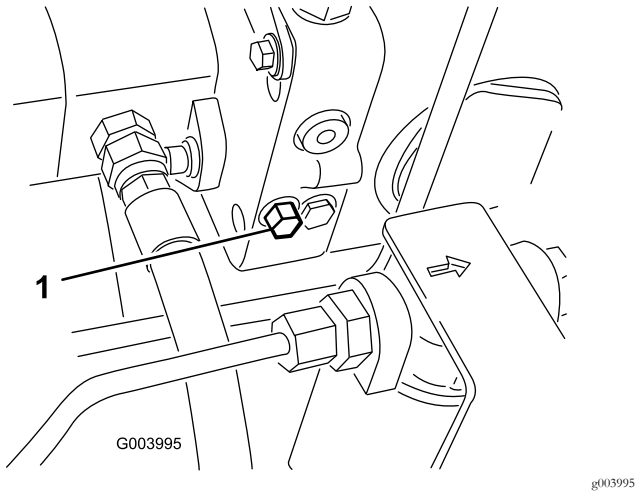

Figure 26
1. The bypass valve is located on the left side of the hydrostat (Figure 26). Rotate the bolt 1-1/2 turns to open and allow the oil to bypass internally. Because fluid is bypassed, the machine can be moved slowly without damaging the transmission.